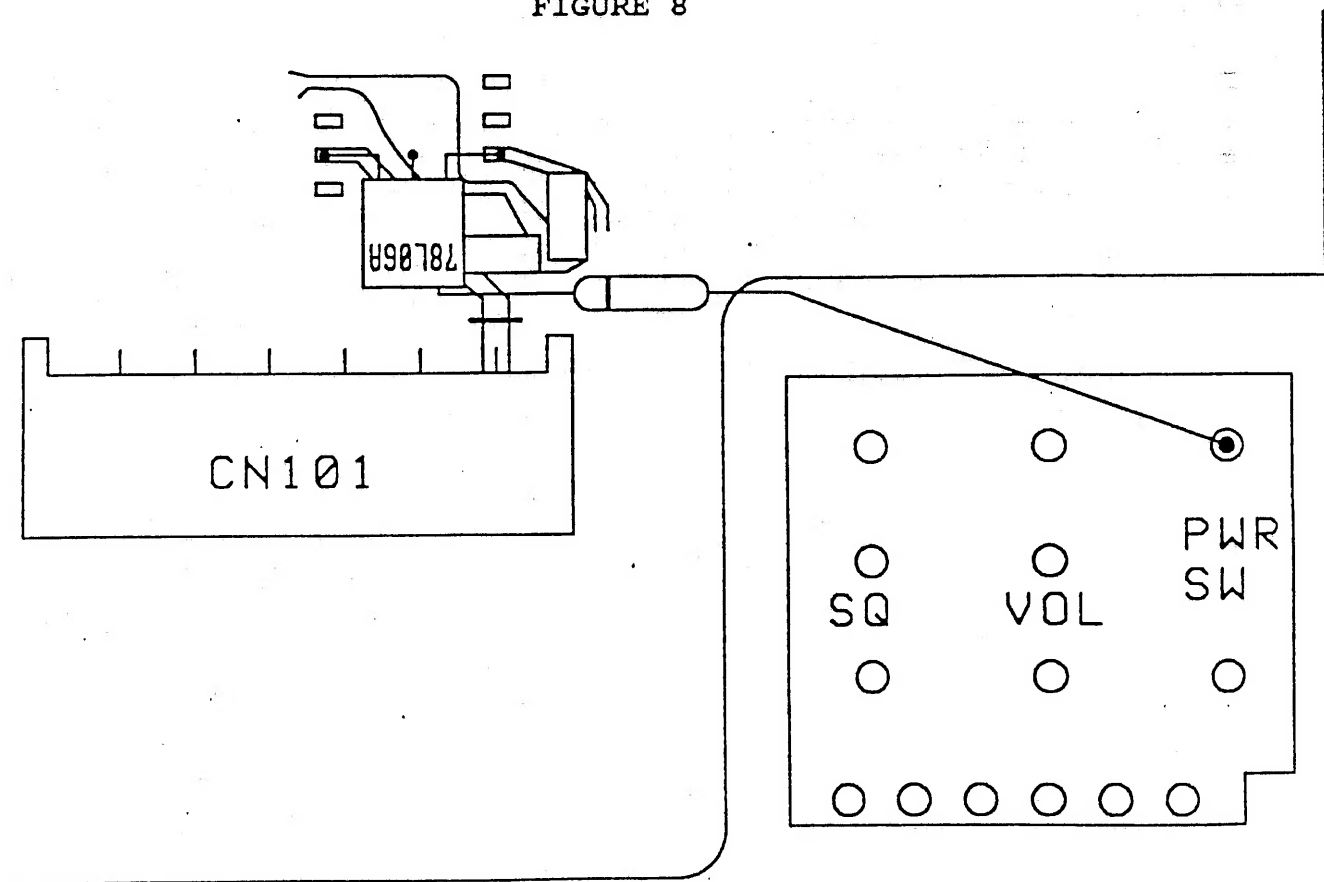

FIGURE 9
20. Place the 6V AVR on the board and make sure the leads contact the foils. Cut the leads to size and then solder the device to the board. Figure 9